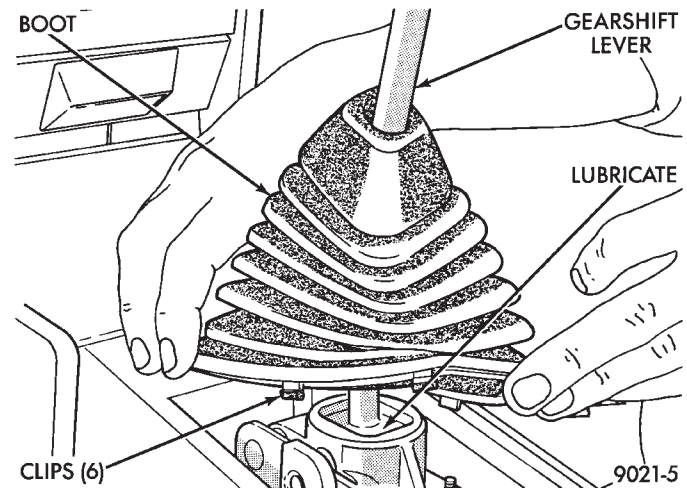

Fig. 7 Remove or Install Boot
(4) Remove or install boot (Fig. 7).